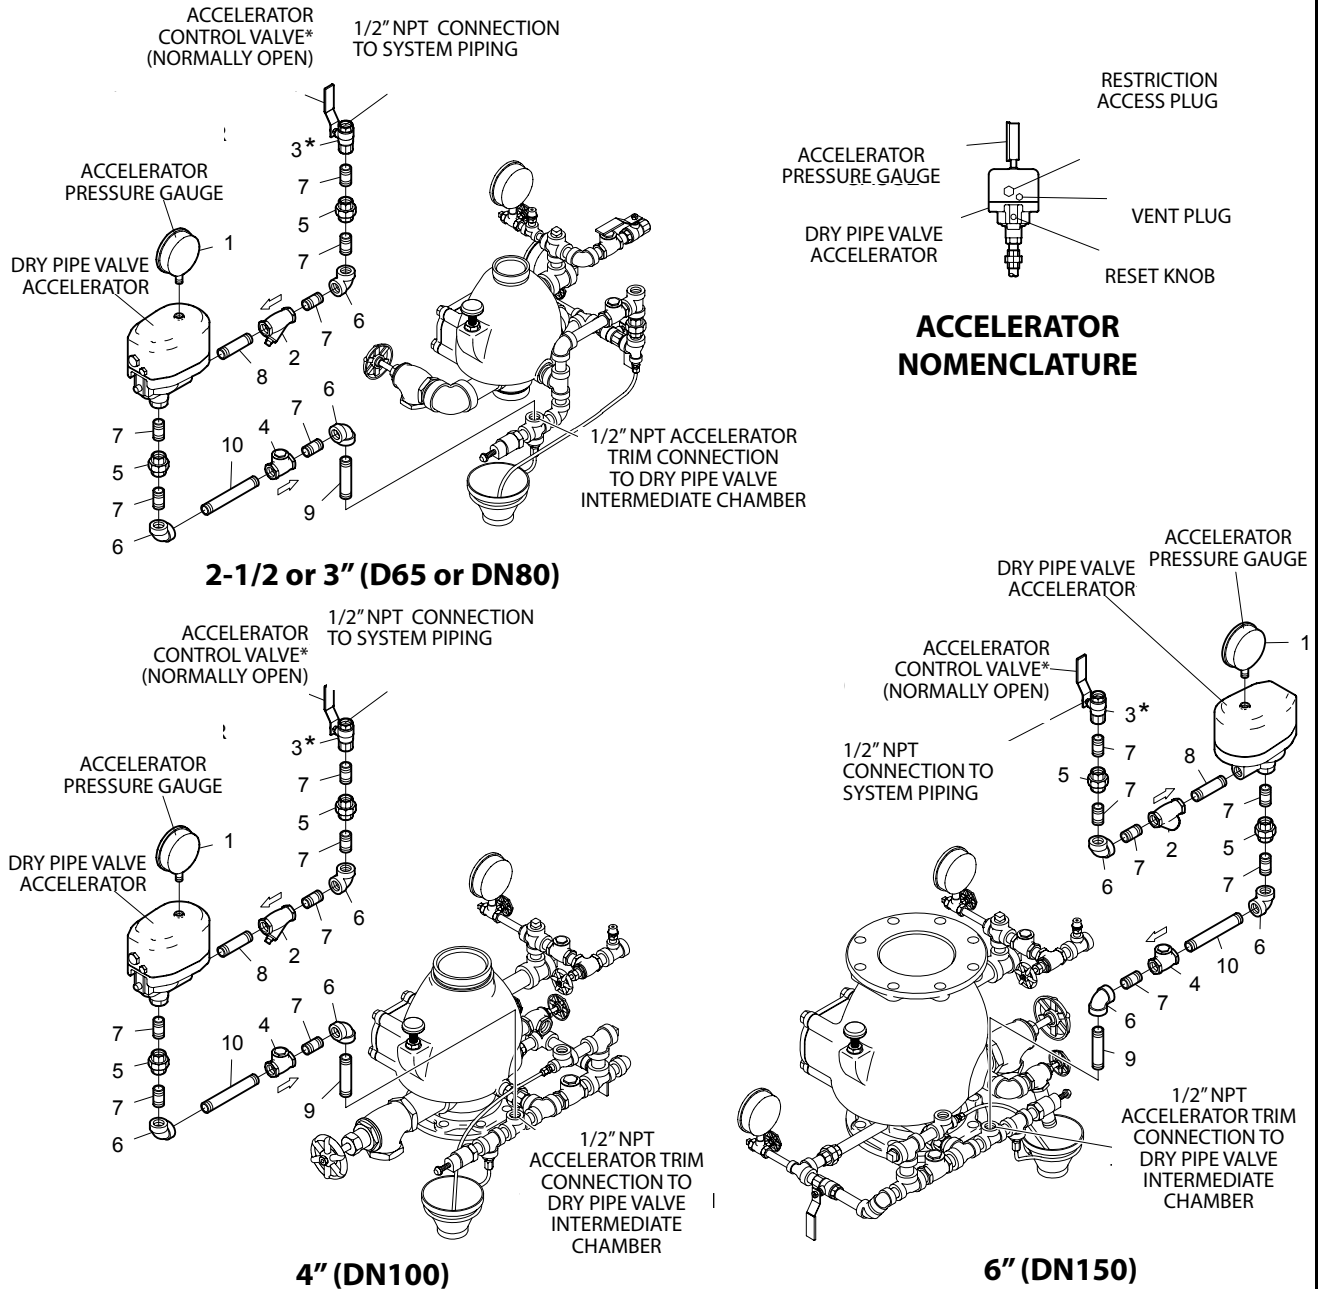

FIGURE 4
The connection to the system piping, Figure 4, must be located so that drain back water will not flow into the Accelerator piping and it must be located at a point above the maximum expected level of the drain back/condensate water.
Step 1. The Accelerator must be positioned vertically and trimmed per the arrangement shown in Figure 4. Apply pipe thread sealant sparingly to male threads only.